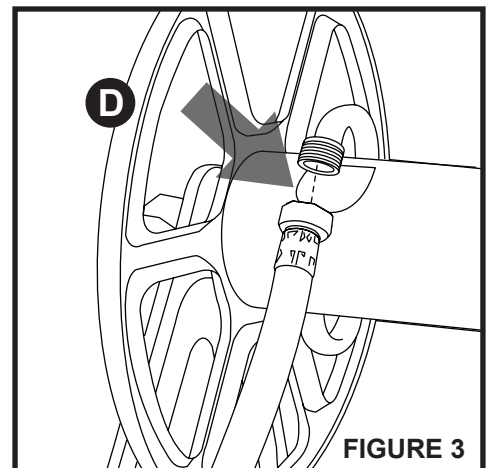

FIGURE 3
3. Attach your garden hose to the hose connection on the hose reel (D) spool. **Figure 3**